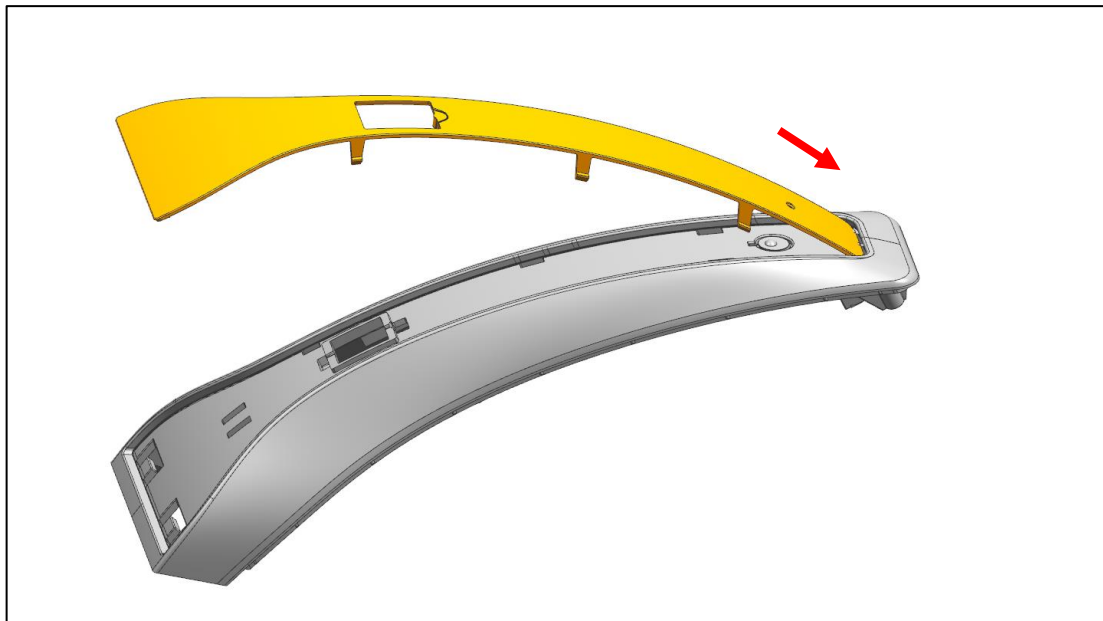

Fig. 21
- a) Insert the two rear flaps of the cover into the corresponding opening of the upper housing (Fig. 21).